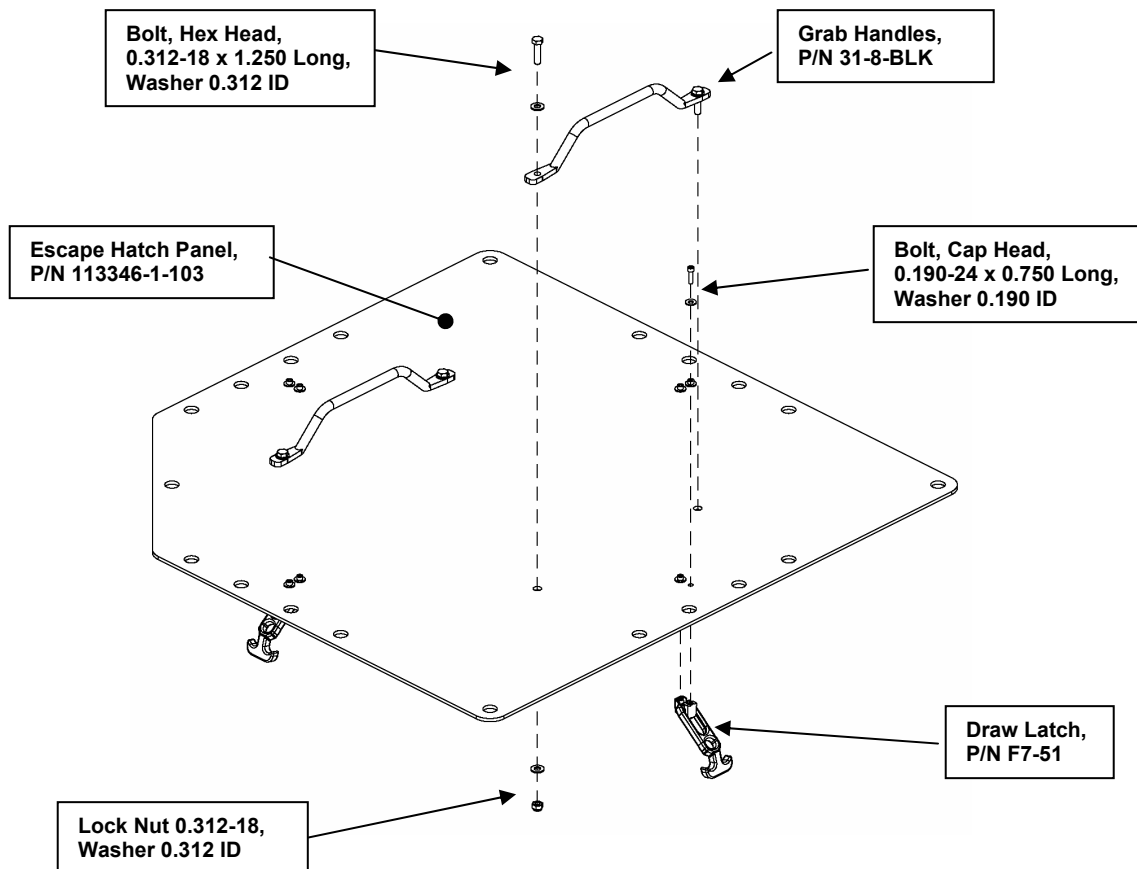

Figure 40. Escape Hatch Handle and Draw Latch installation.
- c) Attach the Grab Handles (P/N 31-8-BLK) to the Escape Hatch Panel (P/N 113346-1-103) using the hardware shown in Figure 40.
- d) Attach four Draw Latches (P/N F7-51) to the Escape Hatch using the hardware shown in Figure 40.